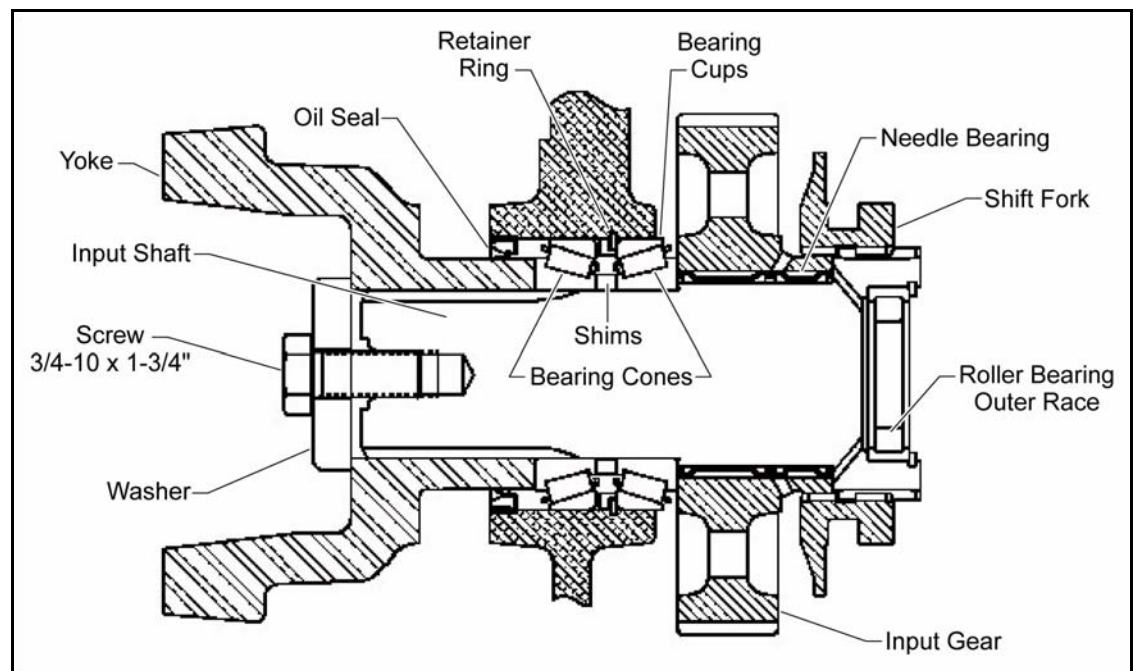

Figure 9-9: Input Shaft Assembly
7. Remove the remaining bearing cone out of the housing. See Figure 9-9, “Input Shaft Assembly,” on page 165.
See Figure 9-9, “Input Shaft Assembly,” on page 165.